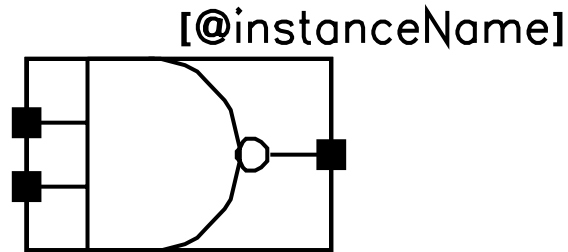

Figure 3.14: A symbol for the nand2 circuit
4. Create a symbol for the NAND gate by selecting **Design** → **Create CellView** → **From CellView**. The Cadence-generated symbol will be a simple rectangle. You can easily modify it to make it look like Figure 3.14 using arcs and circles.